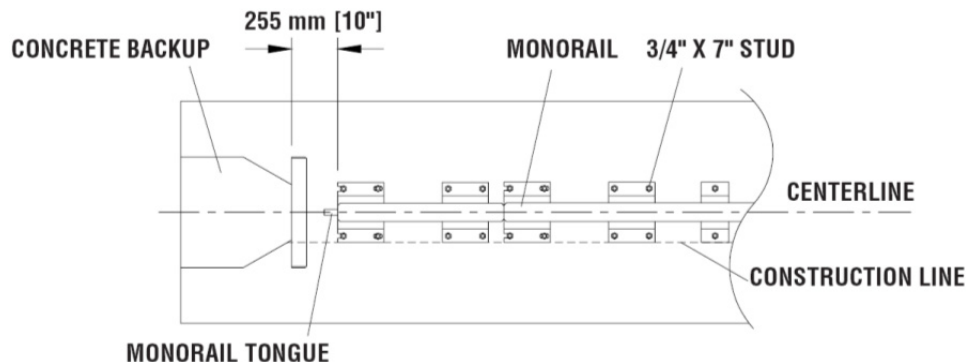

Figure 19
A) Monorail Construction for Concrete Backup (Figure 19)
Locate Monorail on foundation with side of Monorail on the construction line and rear edge of Monorail foot 10" forward of front face of Concrete Backup (see Figure 19).
Orient the Monorail so that the Monorail tongues face Backup (see Figure 19).
Orient the Monorail so that the Monorail tongues face the Backup (see Figure 19, p. 21).